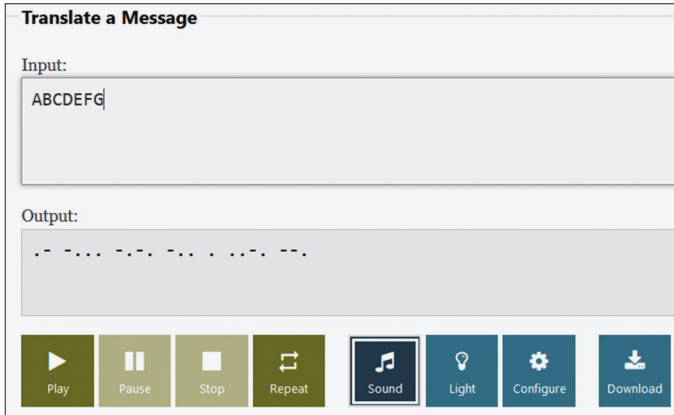

Figure 4.63: Enter some letters for testing.
- Place your smartphone very close to the Mic click board microphone and type in some letters in window labelled **Translate a Message**. e.g., ABCDEFG (see Figure 4.63), and press **Play**. **Turn the frequency potentiometer slowly until the LED starts flashing**. The LED will flash as the Morse code is output from your smartphone speaker. After a while, the Morse code will